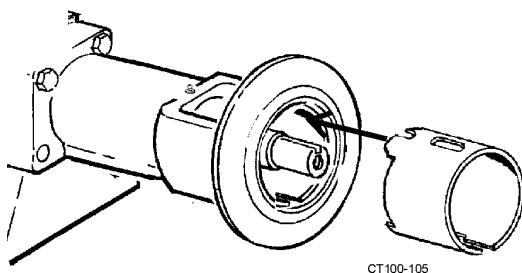

Figure 37 - Installing the Guard
9. Install and position the seal guard. (Figure 37).